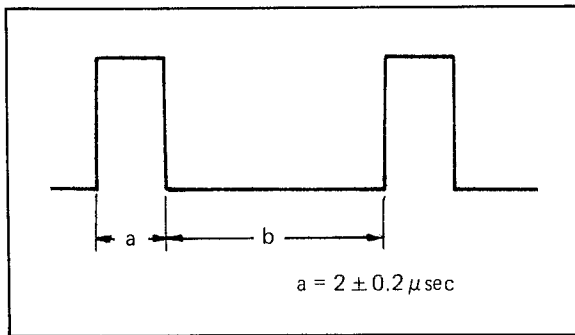

Fig. 6-30 AFC Detector reference signal
- Adjust R301 (DUTY) so that the pulse width of TP-218 is as shown in Fig. 6-30.